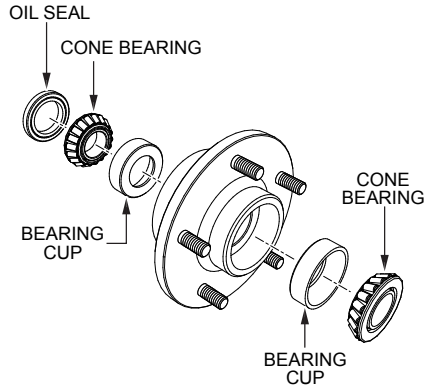

Figure 42. Wheel Hub and Bearings
1. After **every 3 months** of operation, remove the hub dust cap and inspect the wheel bearings (Figure 42). Once a year, or as needed, disassemble the wheel hubs and remove the old grease. Then repack the bearings, forcing grease between the rollers, cone and cage with a good grade of high-speed wheel bearing grease. **NEVER** use grease heavier than 265 ASTM penetration ('No. 2').
2. Fill the wheel hub (Figure 42) with grease to the inside diameter of the outer faces and also fill the hub grease cap.